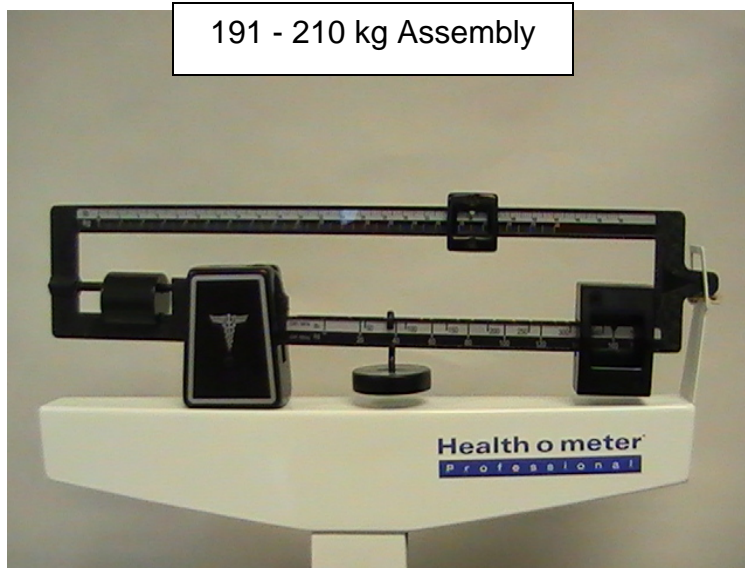

Figure 20
1. When a patient weighs between 191 - 210 kg, place the lower poise weight at 160 kg. (See Figure 20 on page 20)